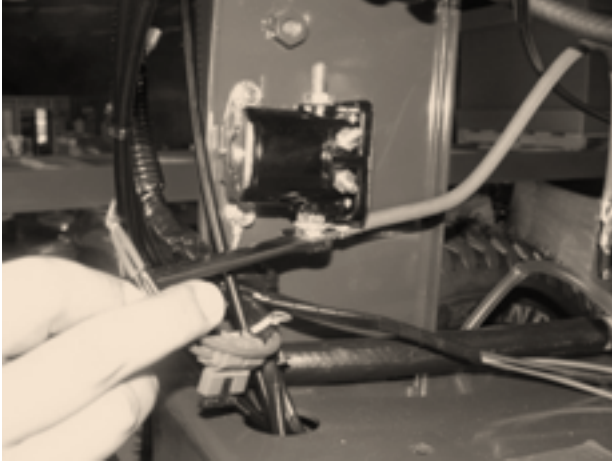

Figure 34
3. Using a ½ wrench, remove the starter cable located on the bottom of starter solenoid **Figure 34**.